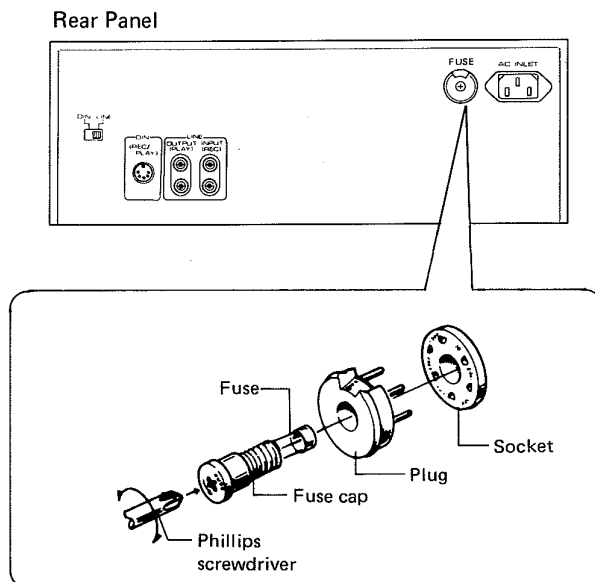

Fig. 10
2. Use a Phillips screwdriver to take out the Fuse cap and fuse (Fig. 10).